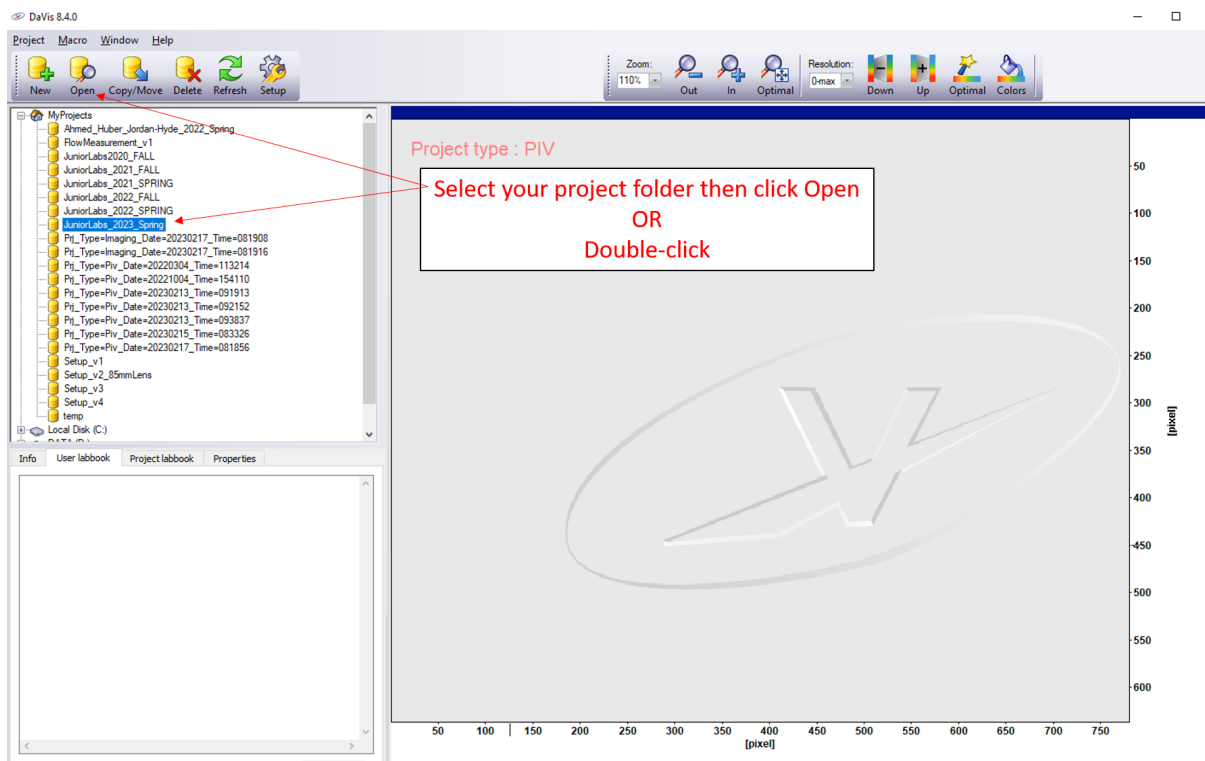

Figure 2: In the "MyProjects" drop-down list select the appropriate project for your semester
- Under "MyProjects" drop-down list select **JuniorLabsXXXX_YYYY**, where **XXXX** will be the year and **YYYY** the semester you are taking the course, e.g. *JuniorLabs2023_Spring* as shown in **Figure 2**.